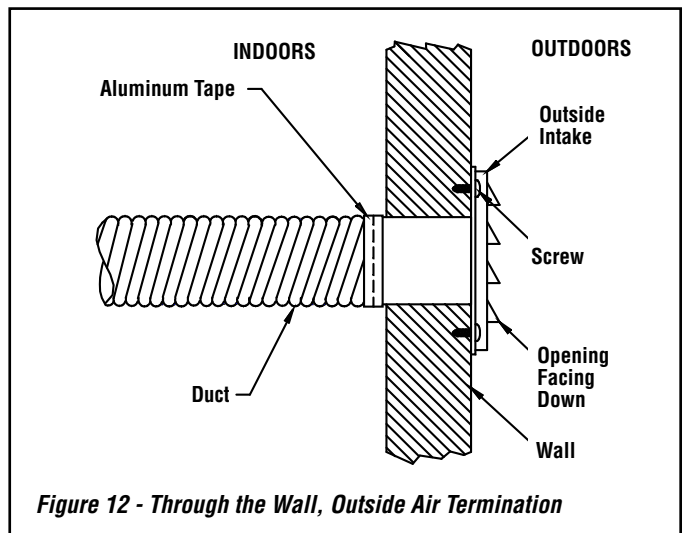

Figure 12 - Through the Wall, Outside Air Termination
- B) The air intake register must not be installed more than ten (10) feet (3050 mm) above the base of the stove.
- Make a 4-1/4" (110 mm) hole in the outside wall of the house at the chosen location. From outside, place the outside air register in the hole (open side down) and fasten the register to the wall, with screws as shown (*see Figure 12*).
- Attach the duct to the coupler on stove (*see Figure 12*). Using the aluminum tape provided, wrap the tape around the joint between the flexible duct and the air inlet.